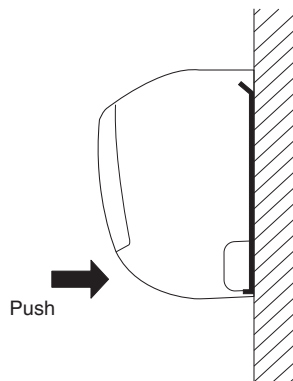

Fig. 1-75
- (1) To install the indoor unit, mount the indoor unit onto the 3 tabs on the upper part of the rear plate.
- (2) Hold down the air discharge outlet and press the lower part of the indoor unit until it clicks to securely fasten to the 2 tabs on the lower part of the rear plate. (Fig. 1-75)